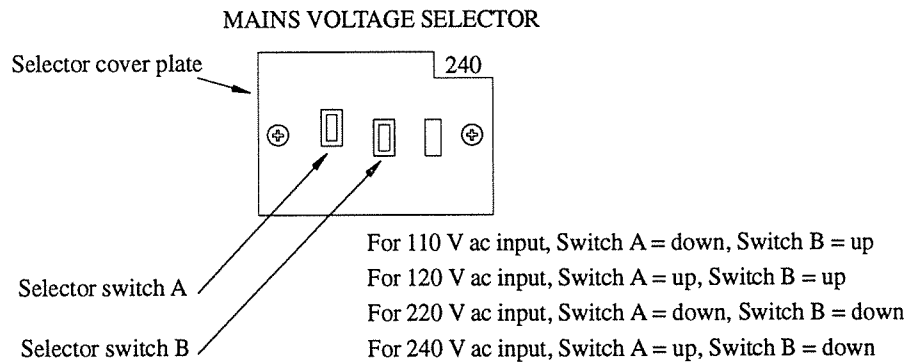

Fig. 3-1 Mains voltage selector cover plate
11 The equipment can operate with an ac input supply of 110/120 V, or 220/240 V (refer to section 2 - specification). The mains voltage selector fitted to the equipment's rear panel (refer to Fig. 1, 2, or 3) must be set to correspond to the local ac voltage. If the selector's current setting is incorrect, refer to Fig. 3-1 and complete the following steps:
- (b) Set the two switches as detailed in Fig. 3-1.